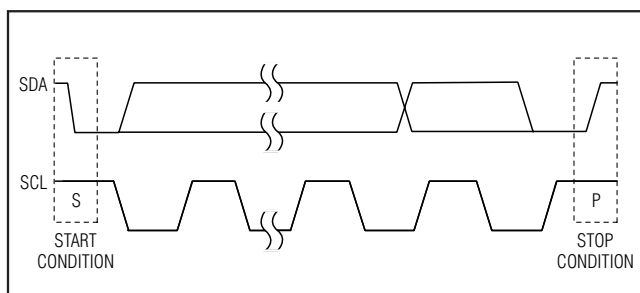
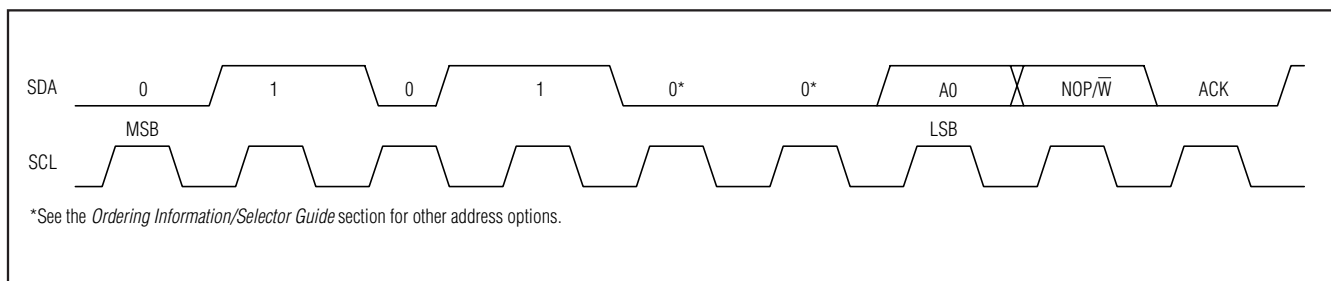
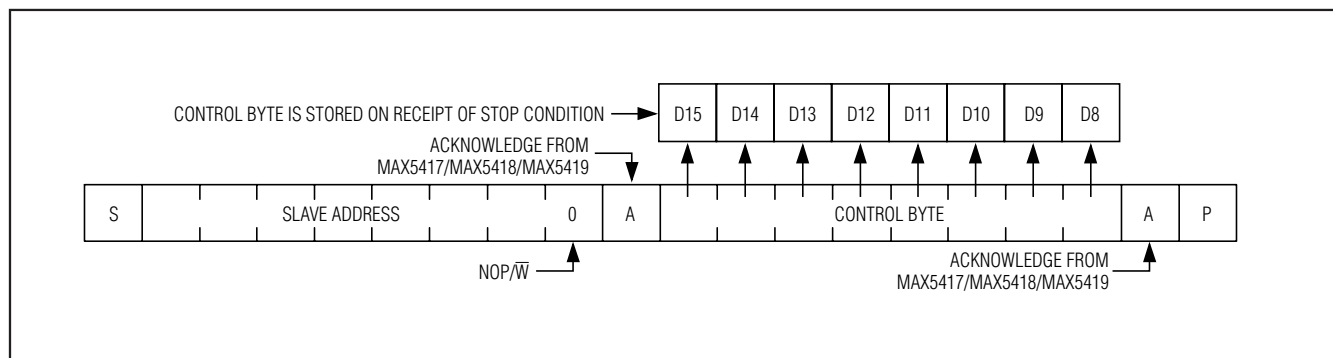
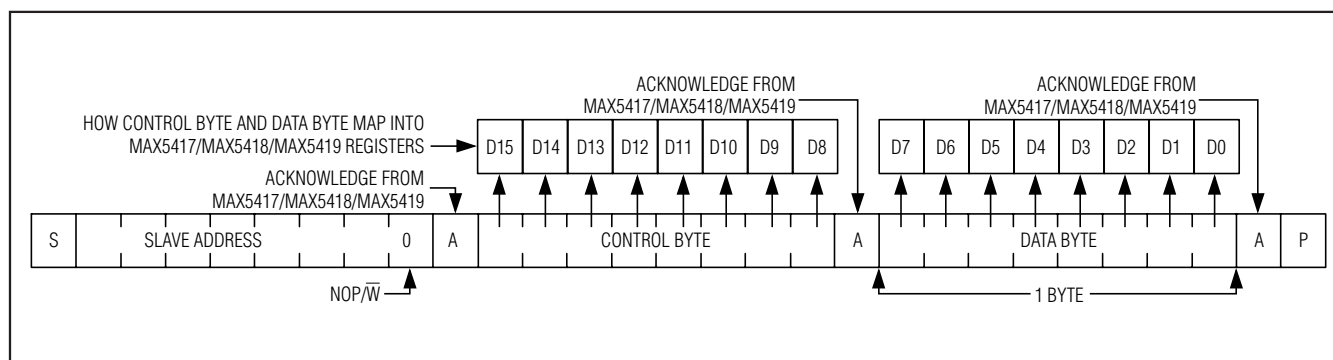

Figure 3. Start and Stop Conditions
Figure 4. Slave Address
Figure 7. Command Byte Received
Figure 8. Command and Single Data Byte Received
Each transmission consists of a START (S) condition (Figure 3) sent by a master, followed by the MAX5417/MAX5418/MAX5419 7-bit slave address plus the 8th bit (Figure 4), 1 command byte (Figure 7) and 1 data byte, and finally a STOP (P) condition (Figure 3).
Both SCL and SDA remain high when the interface is not busy. A master signals the beginning of a transmission with a START condition by transitioning SDA from high to low while SCL is high. When the master has finished communicating with the slave, it issues a STOP condition by transitioning the SDA from low to high while SCL is high. The bus is then free for another transmission (Figure 3).
The MAX5417/MAX5418/MAX5419 have a 7-bit-long slave address (Figure 4). The 8th bit following the 7-bit
A write to the MAX5417/MAX5418/MAX5419 consists of the transmission of the device's slave address with the 8th bit set to zero, followed by at least 1 byte of information (Figure 7). The 1st byte of information is the command byte. The bytes received after the command byte are the data bytes. The 1st data byte goes into the internal register of the MAX5417/MAX5418/MAX5419 as selected by the command byte (Figure 8).